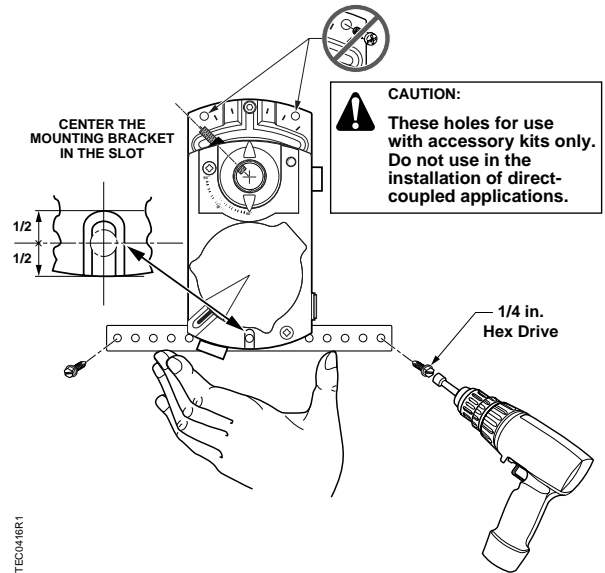

Figure 10. Installing the mounting bracket.
9. Attach the mounting bracket, Figure 10.